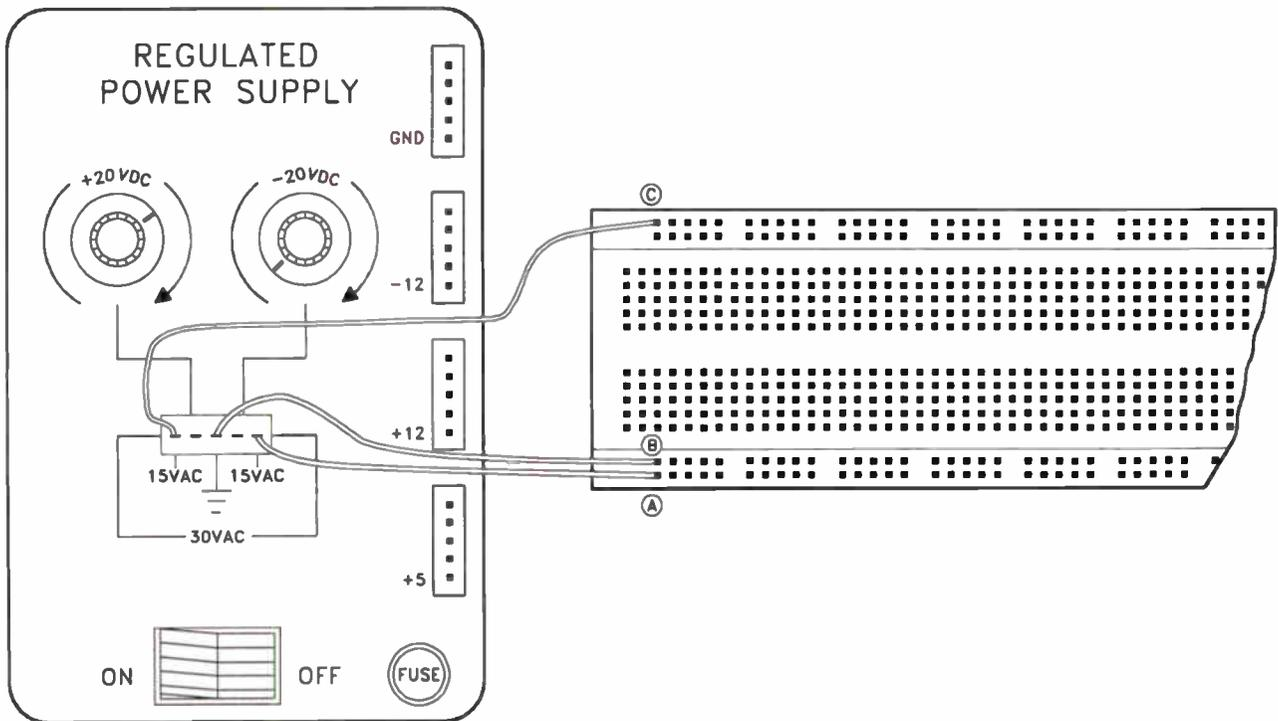

Figure 1-1. Connecting the power transformer secondary leads.
Using your Discovery Lab as a base, connect the center-tapped transformer secondary leads to the breadboard strip as shown in Figure 1-1.
**Step 3.** Connect the leftmost terminal of the power transformer secondary (marked 15VAC) to point C on the breadboard strip, as shown in Figure 1-1.